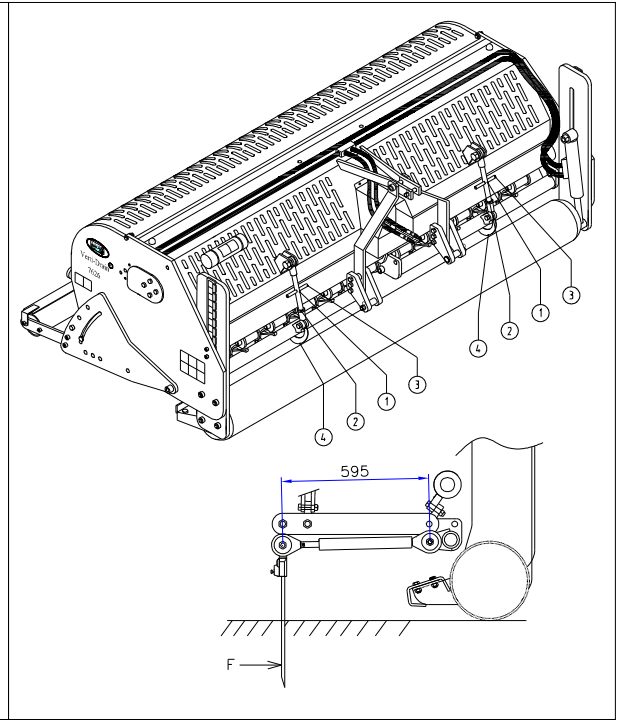

Fig. 12
All pins can simultaneously be adjusted with 2 handles, one of which is located on the front of the machine; see fig. 12. Lift the machine above the ground and loosen counter nut 2 on both sides of the machine. Adjust the angle by turning the handle 3. The angle can be read on indicator 4. Then retighten counter nut 2.
- @ At 90 degrees, the pins only go straight into the ground if the machine is correctly installed, see fig. 8. If this is not correct, force F can be produced, see fig. 12, which will damage the machine.